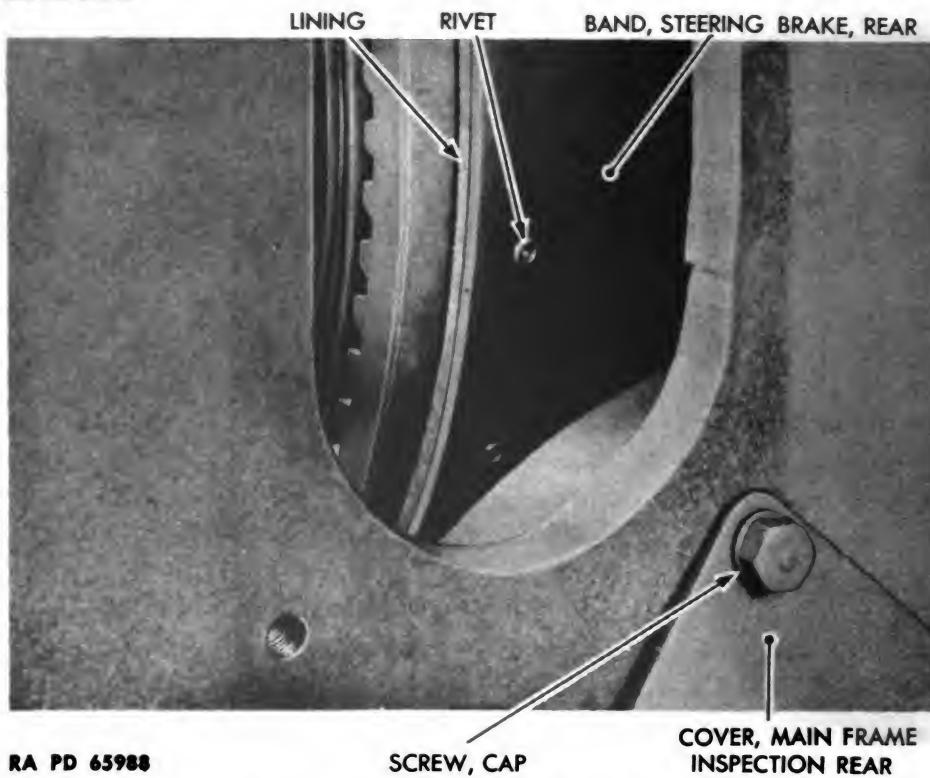

Figure 71 – Inspection of Steering Brakes in the Vehicle
- Check Steering Brake Bands for Wear (fig 71).** Remove 3 cap screws and lock washers from each main frame rear inspection cover, and swing covers out of the way on fourth cap screw. Or remove 4 cap screws and lock washers and remove cover. Through openings, inspect thickness of brake band lining. Lining which is worn down to rivets should be replaced. Also, if adjustments, outlined in paragraph 51, fail